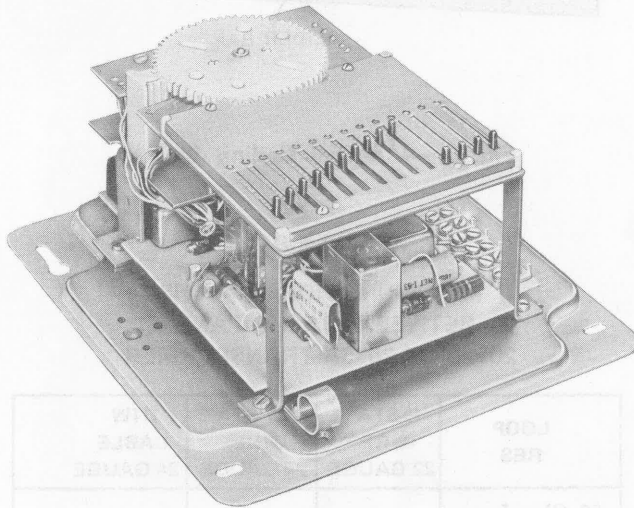

Fig. 1—43A Dial, Without 814775573 (P-47G557) Cover
**1.03** The 43A dial (Fig. 1) is an automatic preset rotary dial for use where a single telephone number is repeatedly dialed. It can be used on either rotary or TOUCH-TONE® central office lines.